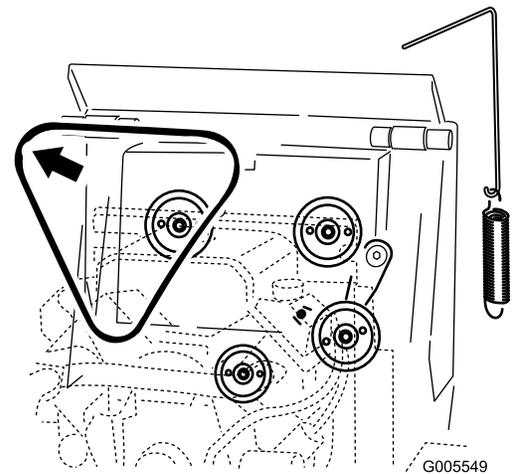

**Figure 53**
5. Remove the idler pulley spring from the idler-pulley assembly (Figure 53).
7. Install a new drive belt around the 3 pulleys (Figure 53).